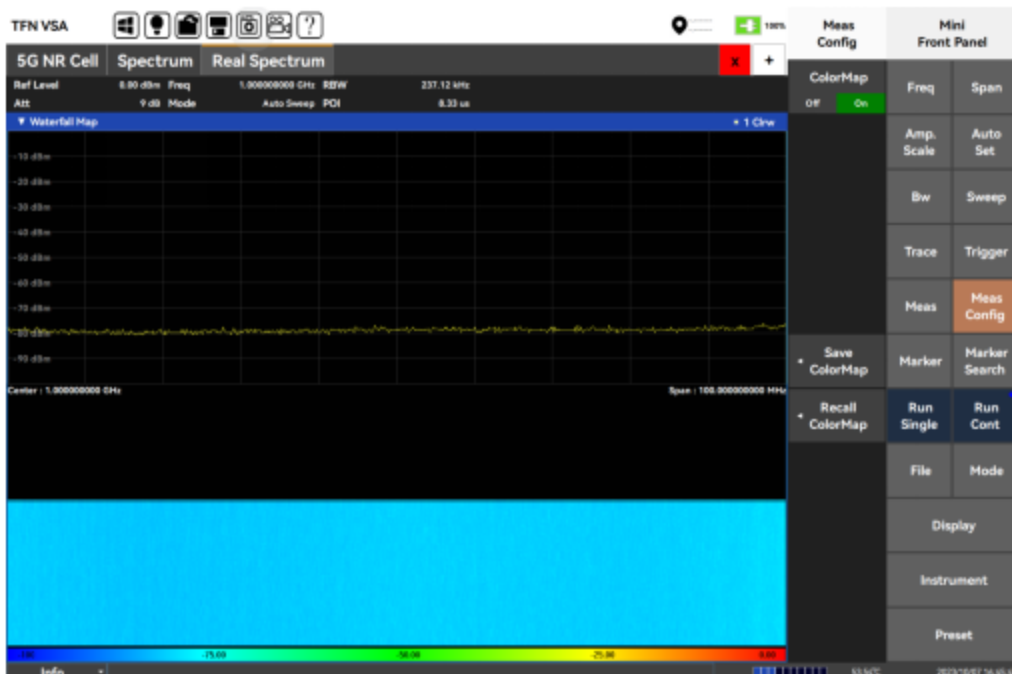

Figure 7.17 Measurement result Fig
- Step 5 After selecting the time gate, the frequency spectrum corresponding to the special time slot is selected by default. Either the time gate can be dragged to other time slot in the time domain to observe the frequency domain map under the time slot. The test results are shown in Figure 7.17: